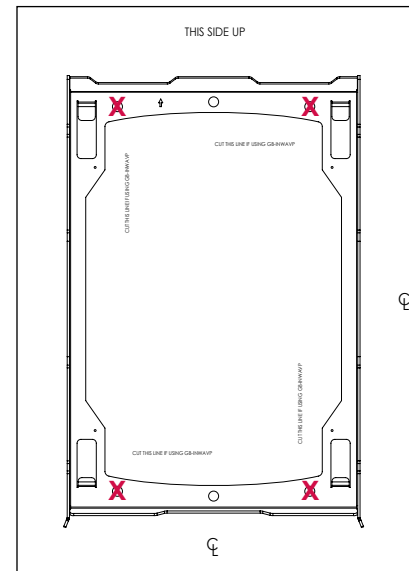

Figure 1
- 2 Cut or punch out the corner screw holes on the paper template (marked "X") (Figure 1).